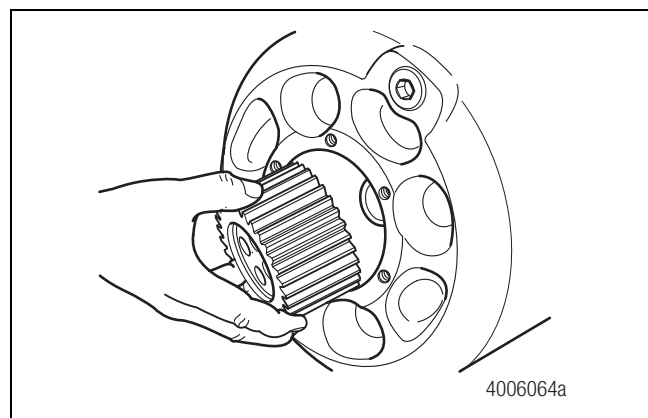
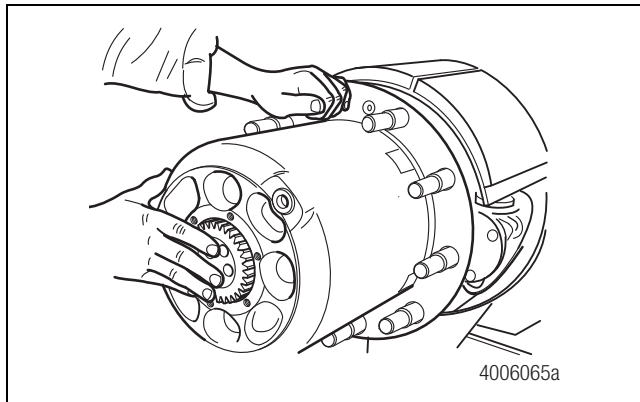

Figure 11.13
Figure 11.14
- 3. Insert the sun gear assembly into the hub housing. Rotate the hub to engage the sun gear with the axle shaft splines and planet gears. Figure 11.13 and Figure 11.14.